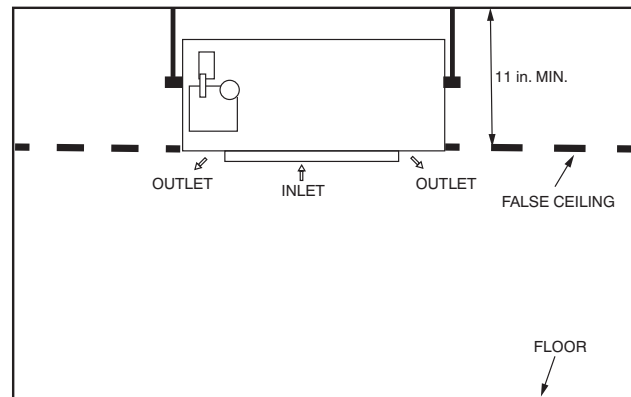

Fig. 4 —False Ceiling Installation
- There should be enough room within the false ceiling for installation and maintenance. See Fig. 4.